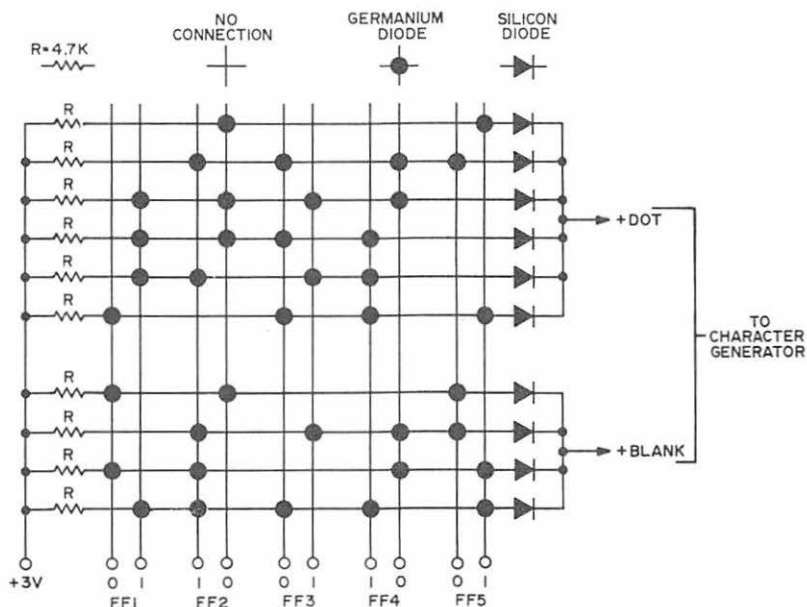

Fig. 7. Diode read-only memory matrix for "DE W7DBF."
A Karnaugh map organization of program counter states is presented, flanked on the left by the DOT map and on the right by the BLANK map for the desired code stream. Reduction is accomplished by "folding" the map about any of the dividing lines and pairing the marks (dots or blanks) which overlap. For example, folding the DOT map about the vertical centerline pairs dot 5 with dot 21, and dot 9 with dot 25, and dot 15 with dot 31. Successive pairing, then pairing pairs, etc. allows a reduction from the original 144 diodes to a total of 48 diodes arranged as shown in Fig. 7. Note that in Fig. 7, the 0/1 flip-flop lines are reversed for FF2 and FF4. This reversal materially simplifies printed circuit construction.
again they differ only in FF4. In part C, a comparison of the 0/8 with the 4/12 pairs shows that these differ only in FF3. Thus, if a three-input diode decoder of the type presented in Fig. 5 were connected to FF1 (0), FF2 (0), and FF5 (0), it would give a +BLANK for all four desired program counter states (0, 4, 8, and 12). Without this reduction, 24 diodes (six for each blank) would have been required rather than the four actually required. This diode decoder may be found in Fig. 7 as the first line in the +BLANK group.
The foregoing example illustrates the use of a Karnaugh map. The actual reduction is performed as in Fig. 8. It should be noted that some states will not pair, such as blank 27 in Fig. 6. To pick up this blank, a full five-input diode decoder is required. From Fig. 6, we see that for blank 27, the program counter is in state "++0++" and the resulting diode decoder can be found in Fig. 7 as the bottom diode line.